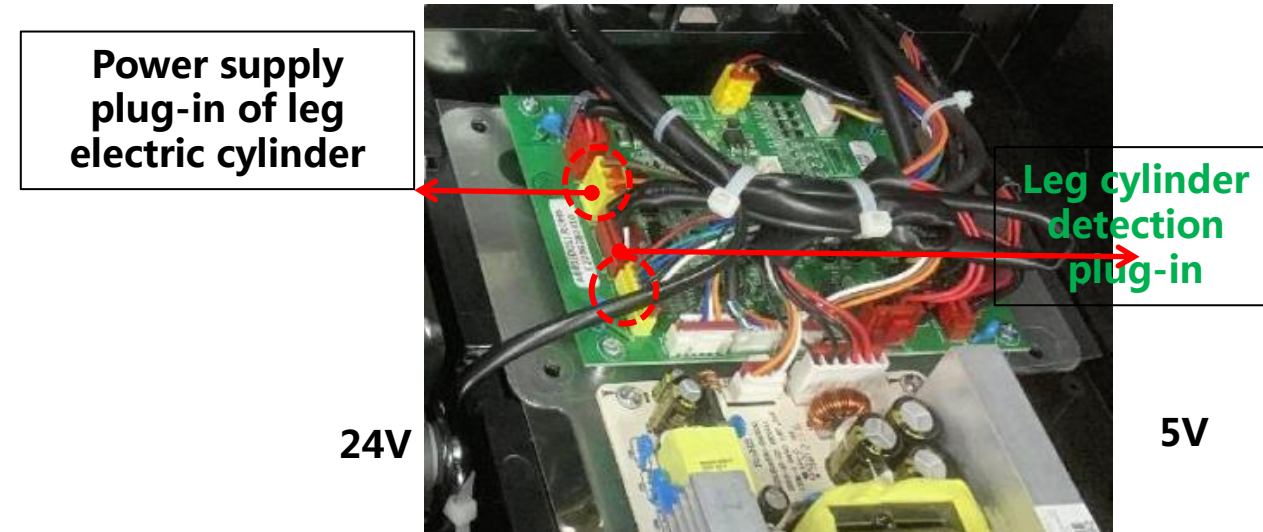

Figure 2
2. You can also measure the resistance value of the electric cylinder (about 5 ohms) or the voltage of the electric cylinder plug-in of the drive plate to judge the problem of the electric cylinder or the drive plate (Figure 2)